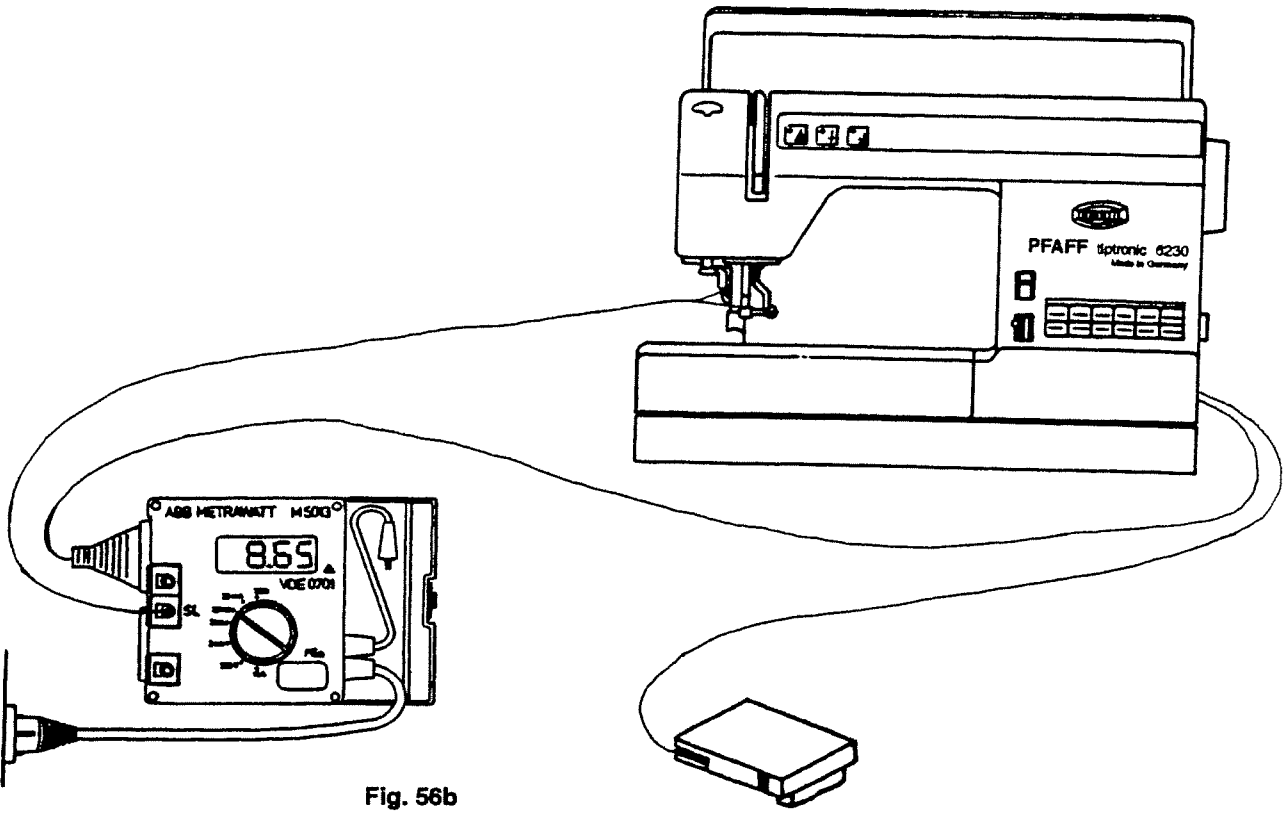

Fig. 56b
- Set knob for measuring range at „20 M Ohm“ (fig. 56b).